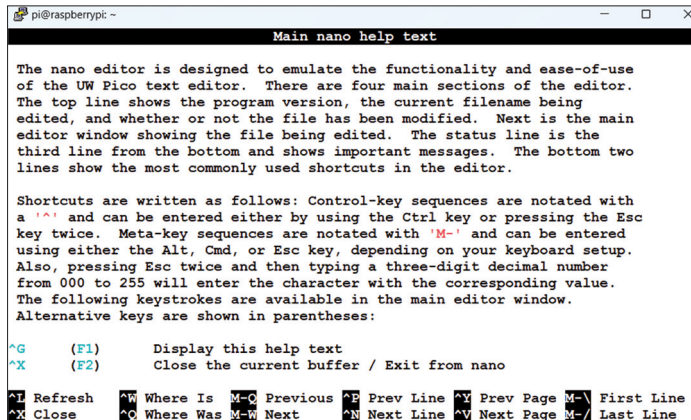

Figure 2.7: Displaying the Help page.
**Step 6:** Press **Ctrl+G** to display help page as in Figure 2.7. Notice that the display is many pages long and you can jump to the next pages by pressing **Ctrl+Y** or to the previous pages by pressing **Ctrl+V**. Press **Ctrl+X** to exit the help page.